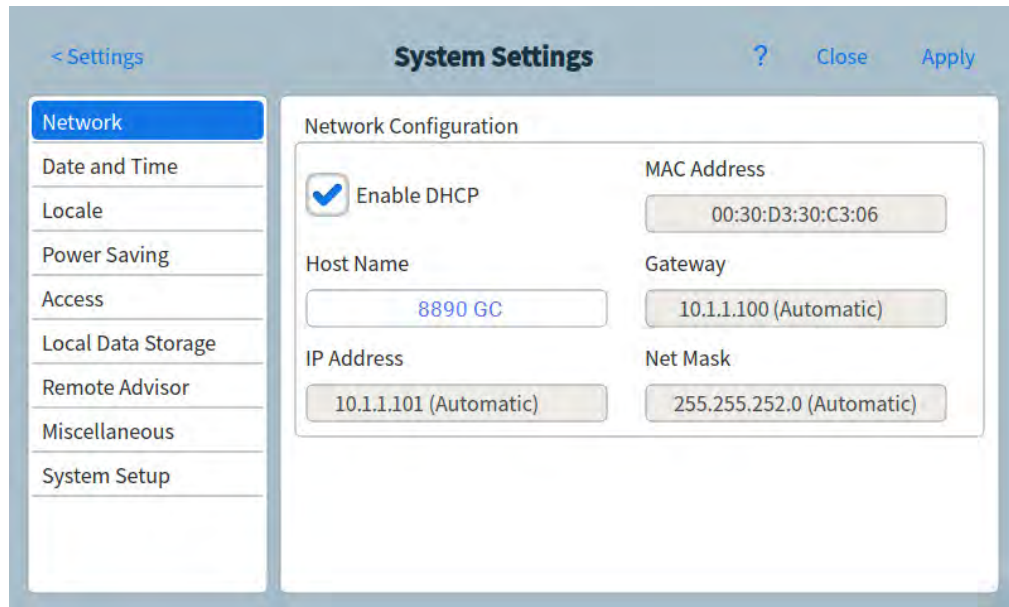

Figure 44. Network Configuration page
- 1 From the System Settings page, select the **Network** page selection button. The Network Configuration page appears. See Figure 44.